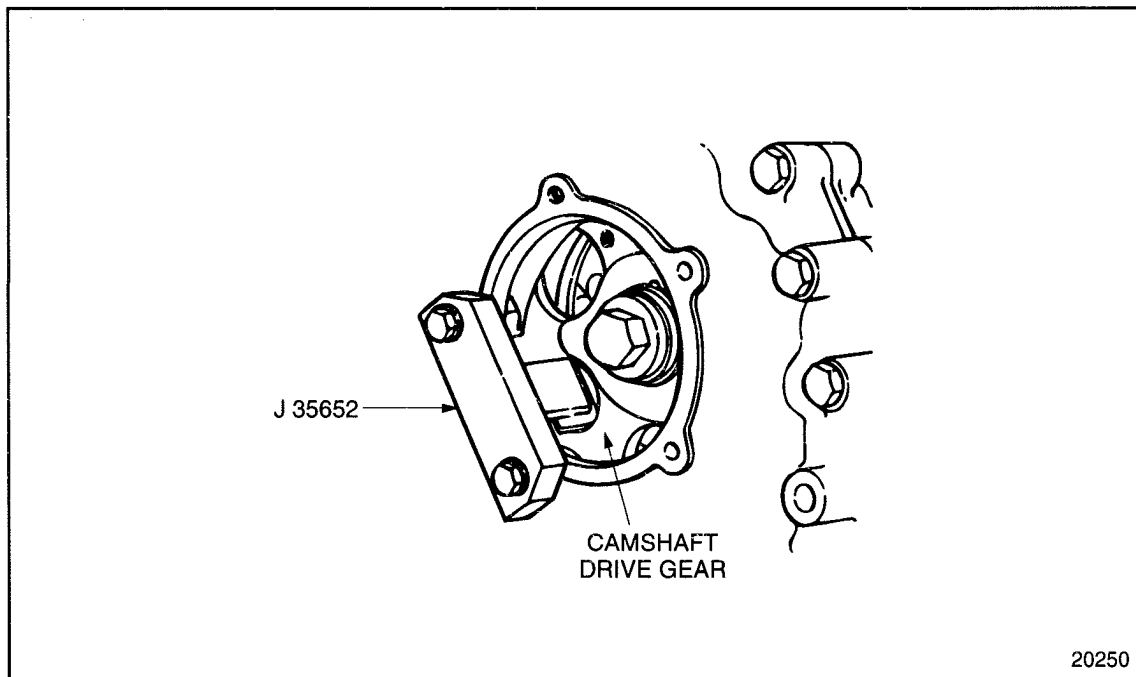

FIGURE 1-277 Camshaft Drive Gear Torque Holding Tool Installation
6. Install the Camshaft Drive Gear Torque Holding Tool, J 35652 to the gear case, engaging one of the lightening holes in the camshaft drive gear. Use two of the access cover bolts to secure the tool to the gear case. See Figure 1-277.